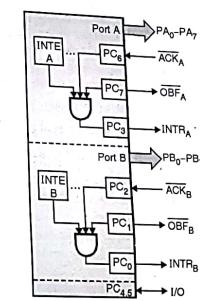

Fig. 16.5.8 : P_A, P_B and P_C in mode 1 output mode
- The different handshake signals used are OBF, ACK and INTR the internal organisation of these signals is as shown in Fig. 16.5.8.